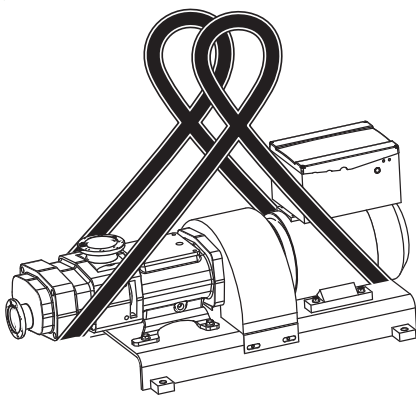

Fig. 9 Transport with round sling
Place the round sling around the gear motor, see Fig. 9 "Transport with round sling", Page 10.
2. Put the other end of the round sling around the pump housing, see Fig. 9 "Transport with round sling", Page 10.